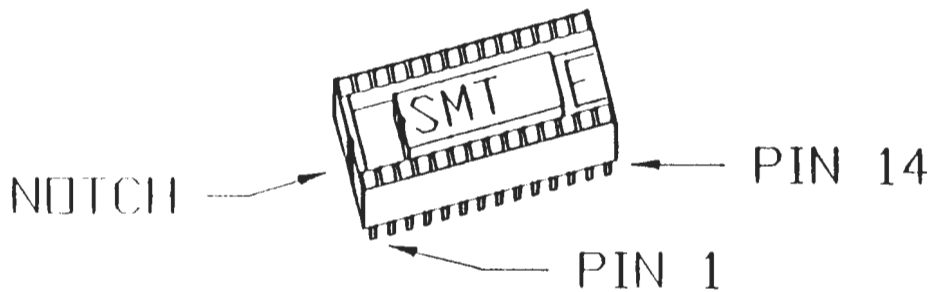

Figure 2
- 6) Look at the No-Slot Clock. At one end of the No-Slot Clock you will notice an indentation. This is the pin 1 end of the No-Slot Clock. At the other end of the No-Slot Clock you will notice a big "E". This is the pin 14 end of the No-Slot Clock. DO NOT MIX UP PIN 1 WITH PIN 14. See figure 2.
dentation. This is the pin 1 end of the No-Slot Clock. At the other end of the No-Slot Clock you will notice a big "E". This is the pin 14 end of the No-Slot Clock. DO NOT MIX UP PIN 1 WITH PIN 14. See figure 2 in previous section for a drawing of the pin 1 position of the No-Slot Clock.